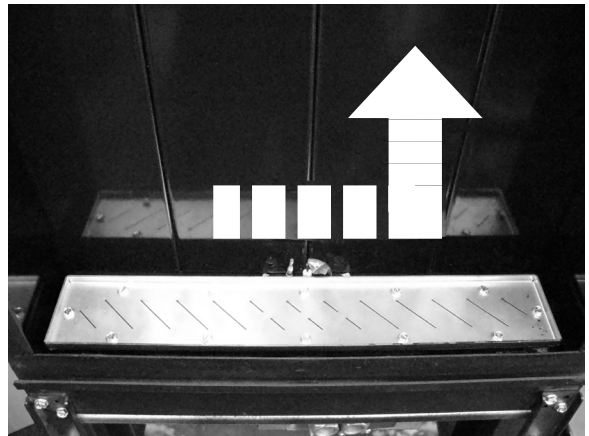

Figure 6
6. To remove the burner from the fireplace, slide the entire assembly to the right before lifting up to remove as shown in **Figure 6**.